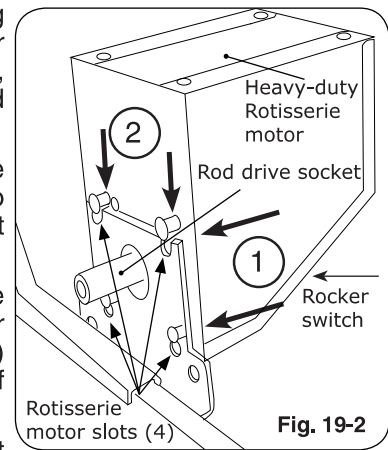

Fig. 19-2
2. Slide rotisserie motor fully onto motor bracket (right side, Fig. 19-2).